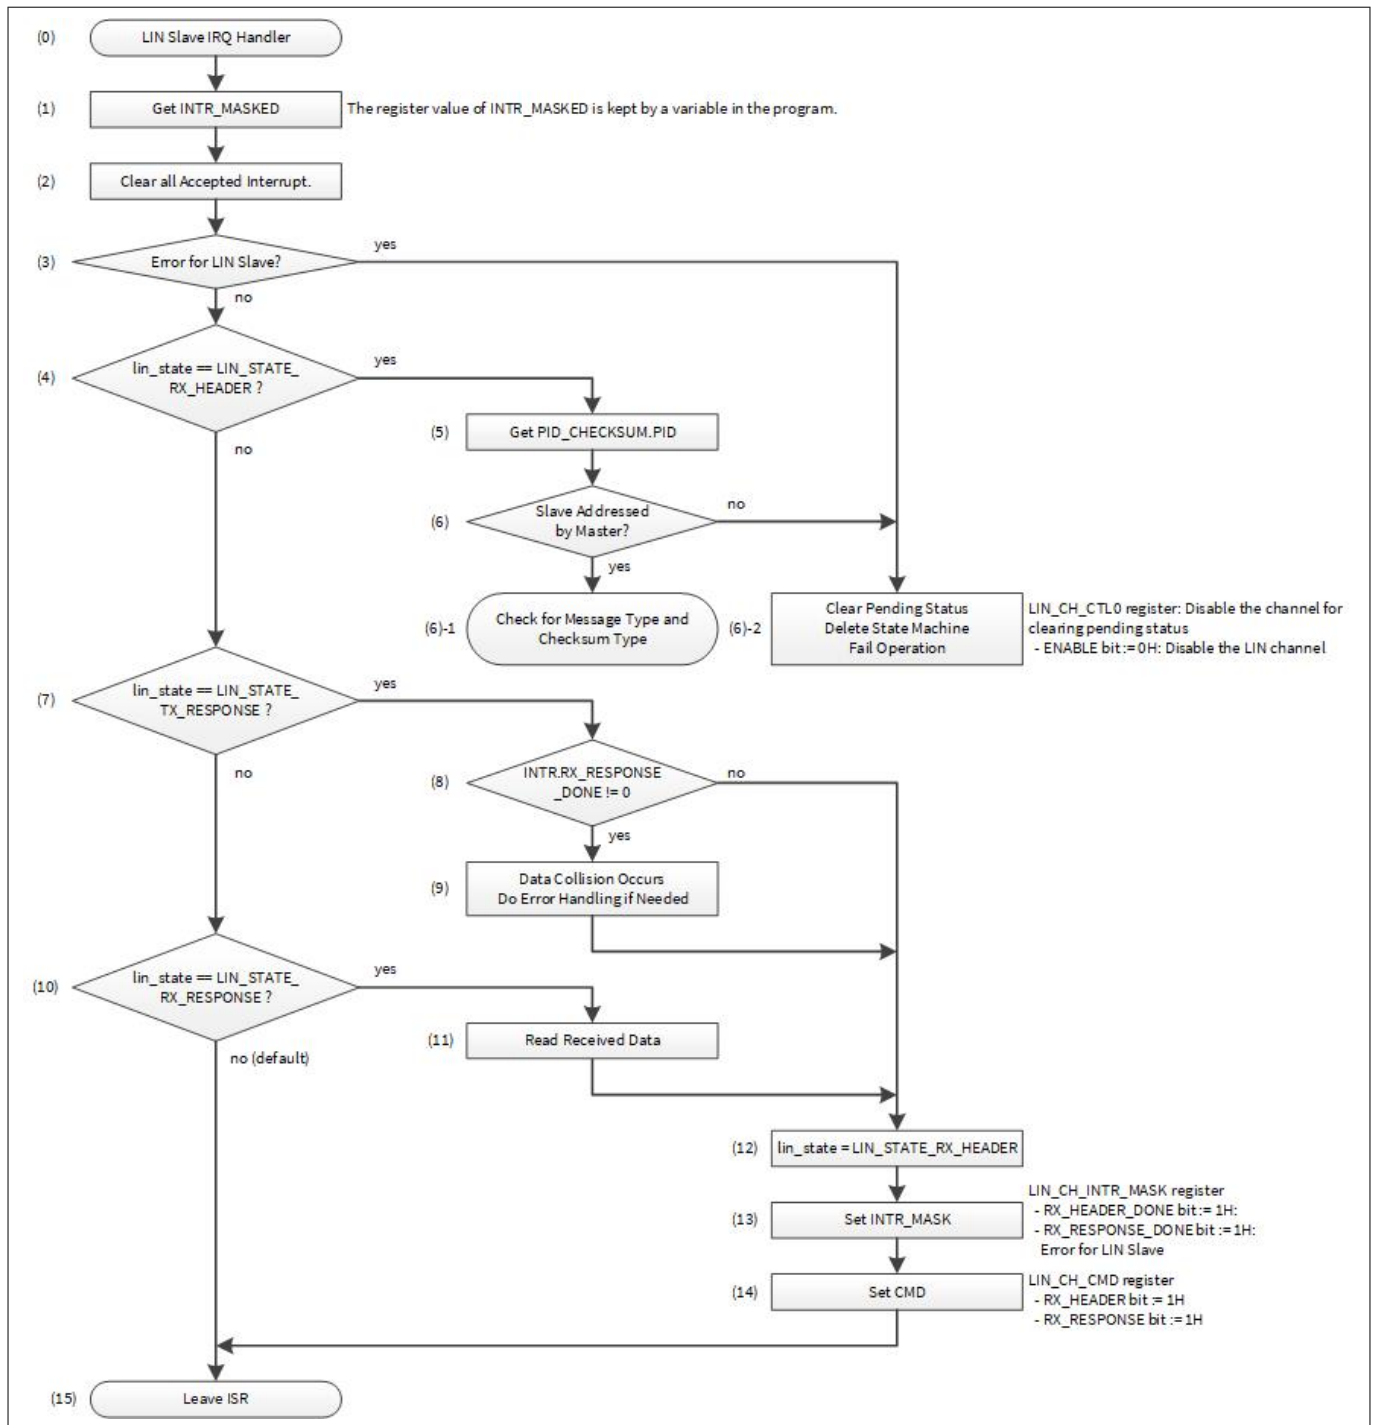
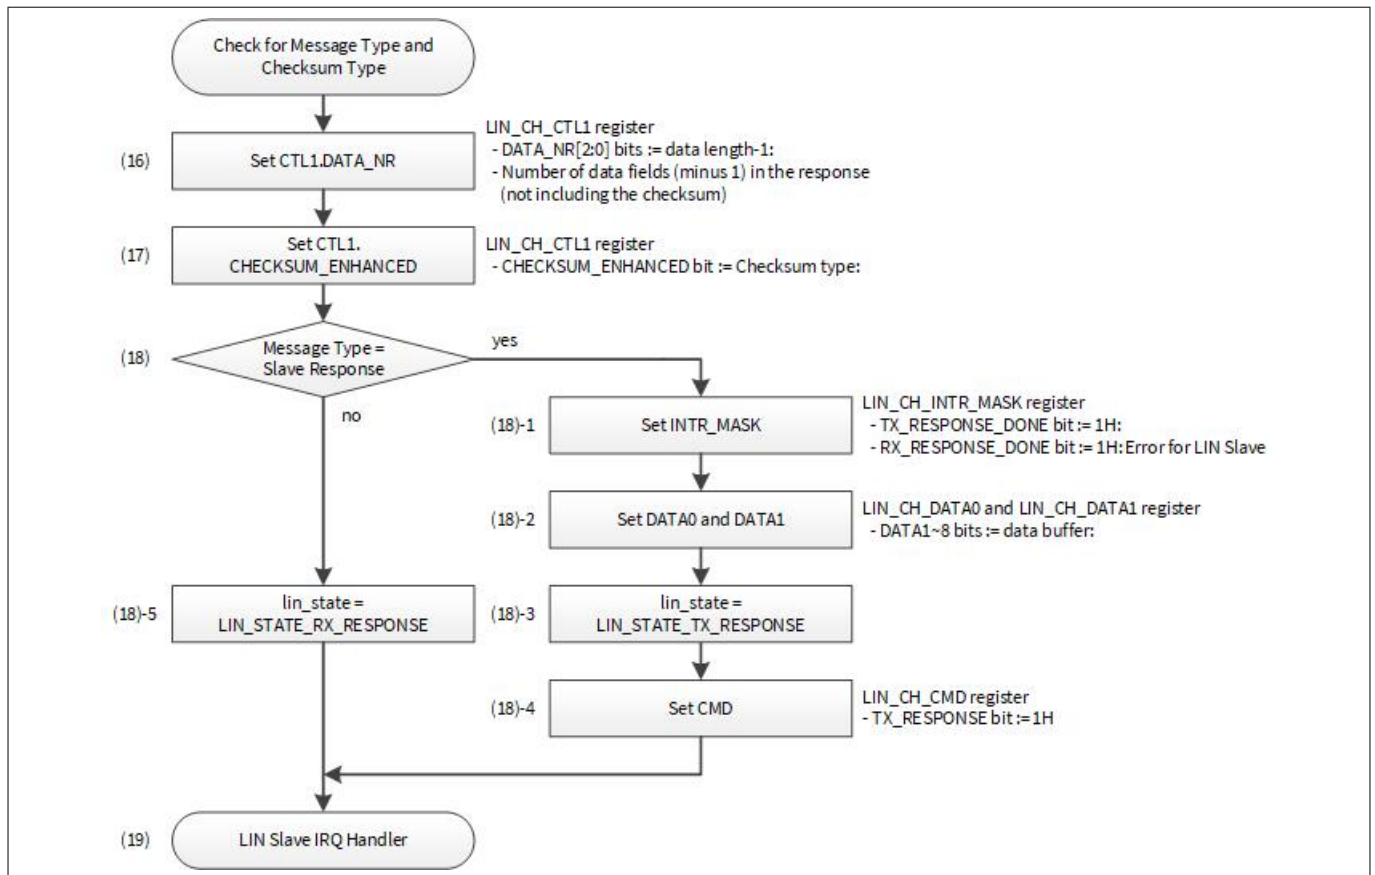

Figure 10 Example of LIN Slave IRQ Handler
Figure 11 Example of LIN Slave Checking for Message Type and Checksum Type
Figure 10 shows an example of how the LIN Slave IRQ handler works. This flow is used in Code Listing 18.
- If the ID is present in Table 8, go to (6)-1.
- (6)-1 Go to in Figure 11.
(12) Configure the state to LIN_STATE_RX_HEADER.
(13) Enable event interrupt by LIN_CH_INTR_MASK register.
(14) Configure the Command Sequence
(15) Return from LIN slave IRQ handler and wait for the occurrence of the configured LIN interrupt as Table 2.
Figure 11 shows how the message type and checksum type operations are performed. This flow is used in the case of jumping from (6) -1 in Figure 10 and in Code Listing 20.